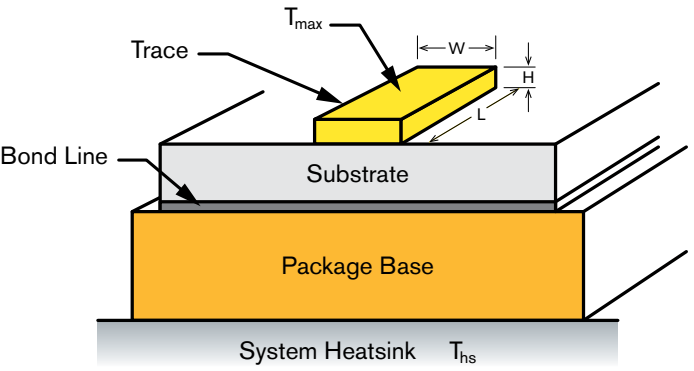

Figure 3: Cutaway view of thin-film metal trace thermal model.
- If the dissipated power for your choice of trace dimensions exceeds the thermal limit, then you should evaluate the assumptions on which it was based for its relevance to your design (See Figure 3 and the Thermal Model paragraph above.)